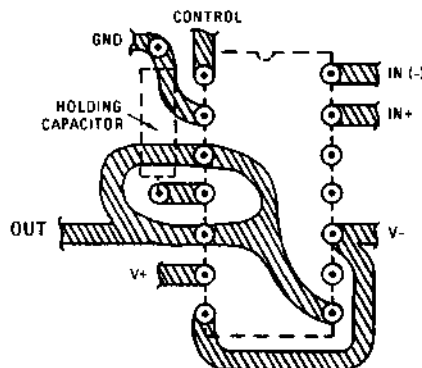

Figure 2
- 2) The method used to reduce leakage paths on the P.C. board and the device package is shown in Figure 2. This guard ring is recommended to minimize the drift during hold characteristic.